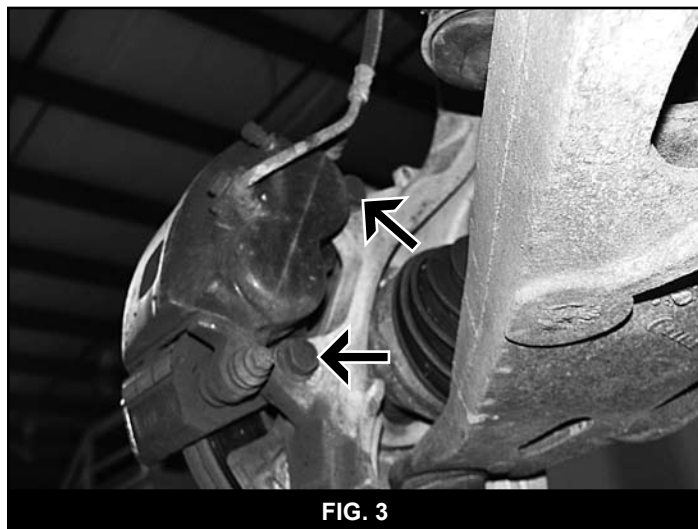

FIG. 3
15. Remove the brake caliper anchor bracket bolts (Fig 3) and pull the caliper free from the steering knuckle and rotor. Hang the caliper securely out of the way. Retain caliper mounting hardware. Remove the brake rotor from the hub. Note: Do not allow the brake caliper to hang from the brake hose.